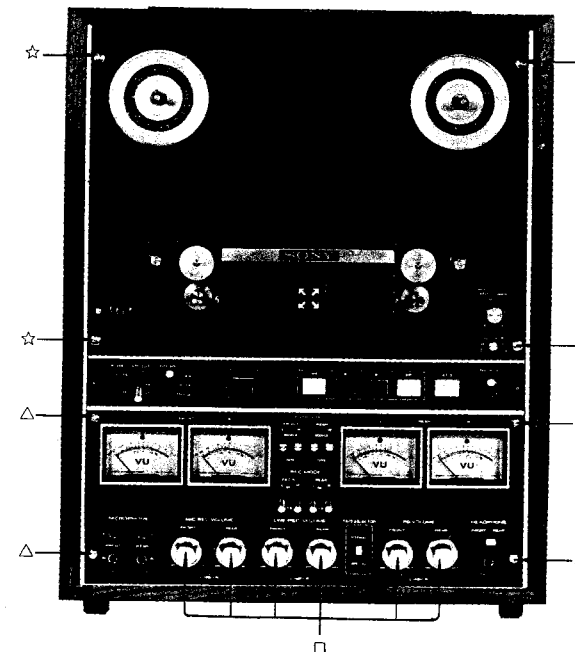

Fig. 2-1. Reel panel and amp panel removal
Remove the four screws marked ☆ in Fig. 2-1.
- (1) Remove the control knob marked □ in Fig. 2-1 by loosening their set screws.
- (2) Remove the four screws marked △ in Fig. 2-1.